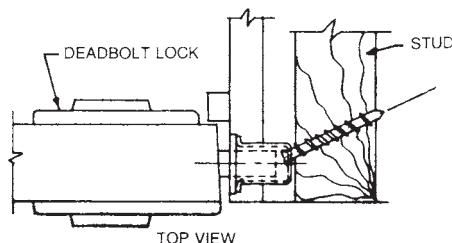
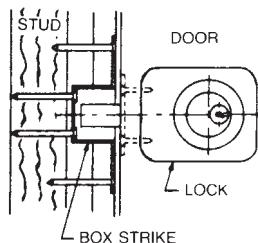

Figure 13.52 Ensure the screws go into the frame stud for maximum holding power. (M.A.G. Engineering and Mfg., Inc.)
Figure 13.53 Side view of the strike box. (M.A.G. Engineering and Mfg., Inc.)
9. Within the strike box, drill two $\frac{1}{8}$ -inch-diameter pilot holes on approximately a 25° angle toward the center of the jamb. This will provide for maximum holding power when the two screws are attached to the stud (Fig. 13.52). Figure 13.53 is a side view of the strike box positioning.